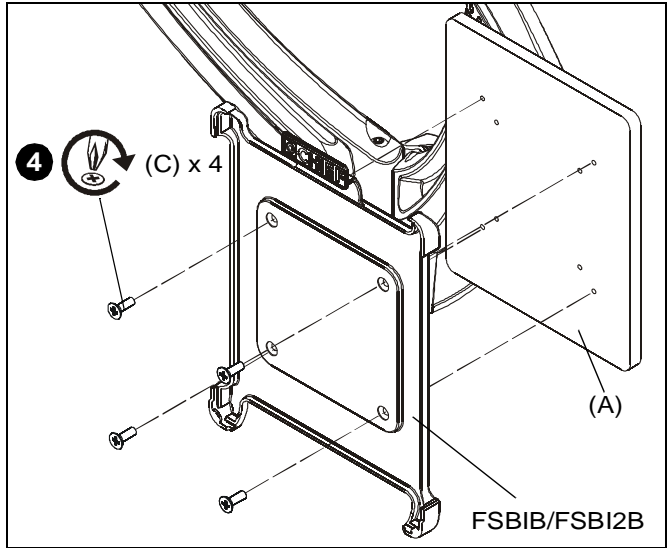

Figure 3
4. Use four M4x12 Phillips flat head screws (C) to connect FSBIB/FSBI2B mount to KRA400 adapter. (See Figure 3)